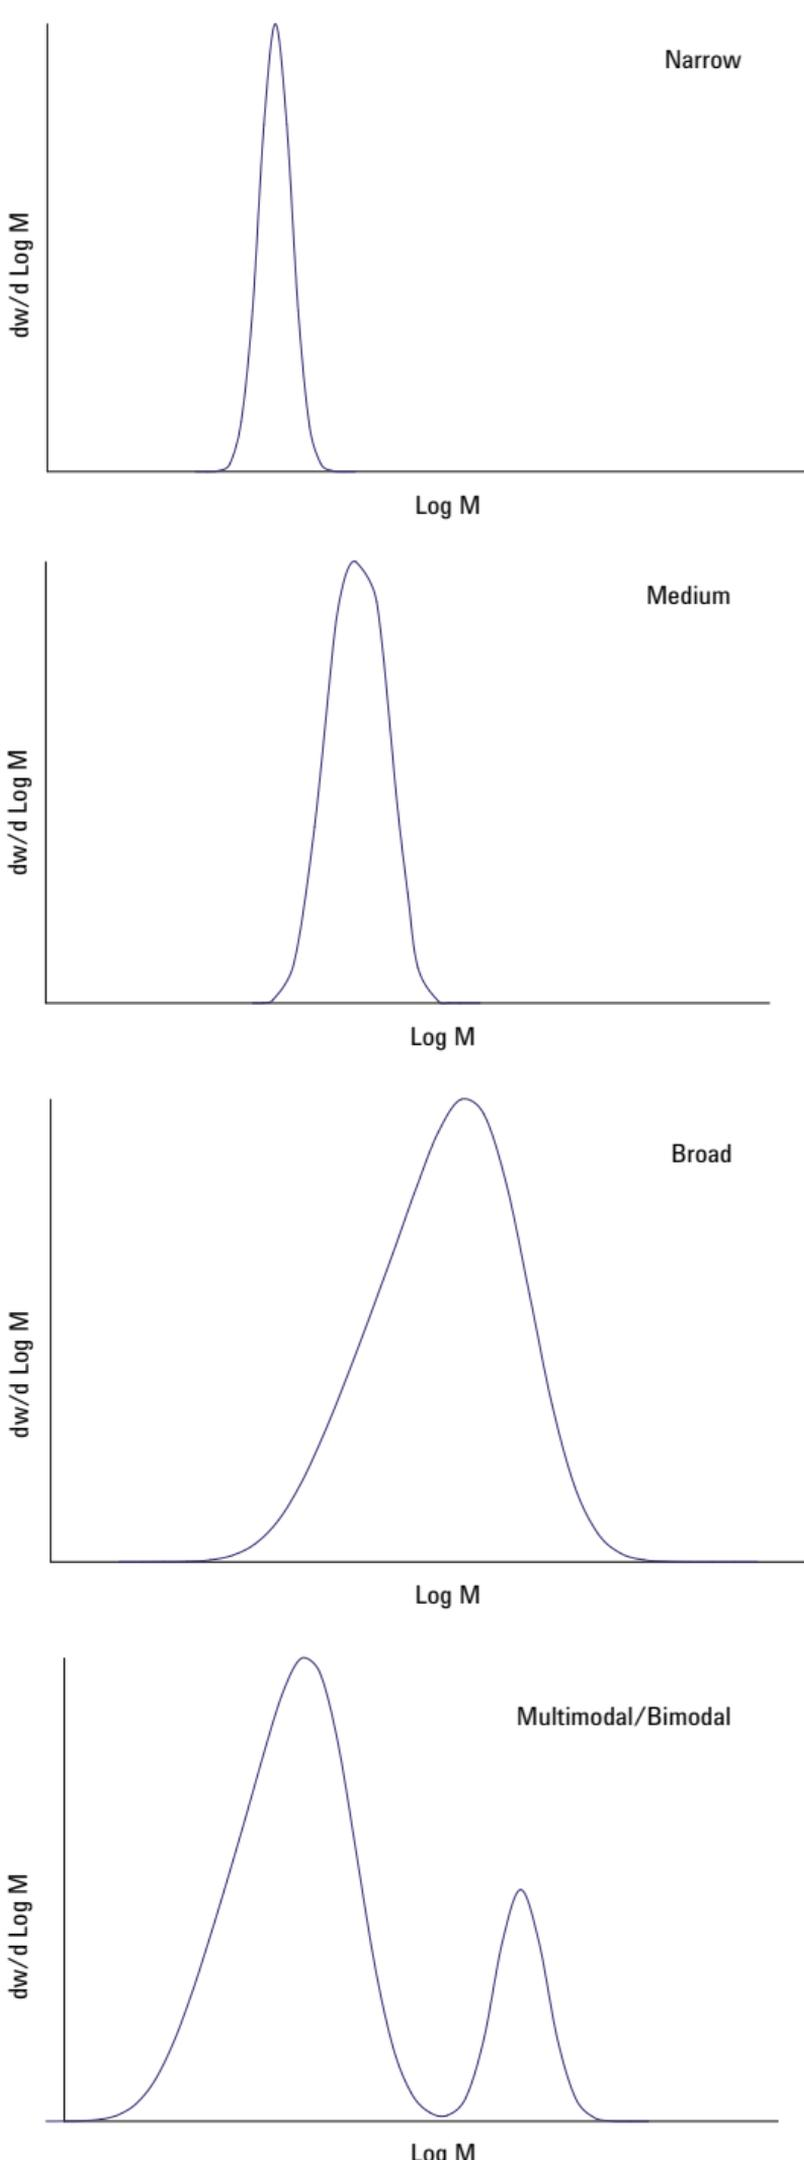

Figure 5. Different polymer molecular weight distributions
- Sometimes synthetic polymers have multimodal distributions. One example is shown in Figure 5. Importantly, the values of the molecular weight averages do not reveal in themselves that the sample is multimodal – careful observation of the molecular weight distribution is required.
Figure 5 shows molecular weight distributions for polymers of differing polydispersities. A narrow distribution consists of a single, sharp peak, with a polydispersity of <1.2 . A medium distribution has a wider size range of polymer chains with a polydispersity of <2.0 , over which the distribution is classed as broad. The profiles can be Gaussian, with symmetry around the highest point, but often they are weighted towards either high or low molecular weight. If two or more polymers of differing molecular weight are present, then the two peaks can overlap, resulting in a bimodal distribution.